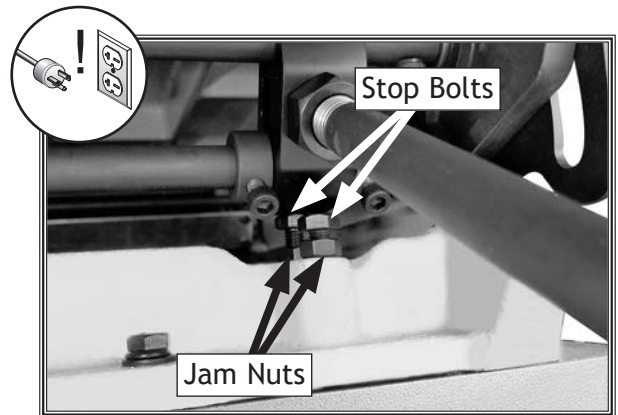

Figure 48. Location of outfeed table stop bolts and jam nuts.
4. Loosen outfeed table lock located at front of machine, and loosen jam nuts and positive stop bolts located at side of machine just below outfeed table (see **Figure 48**).